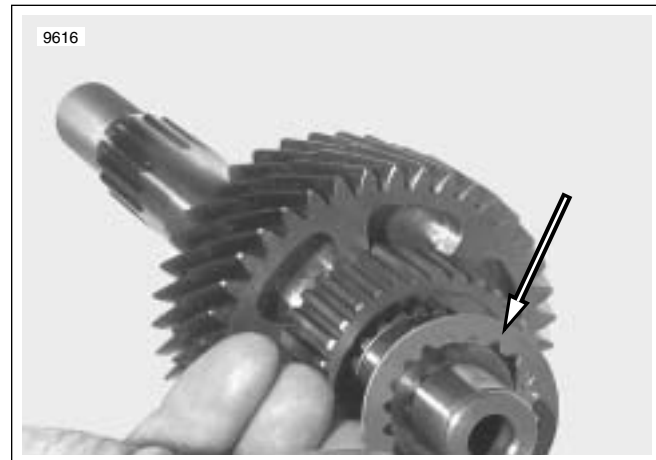

Figure 7-26. Splined Washer
11. See Figure 7-26. Remove splined washer.